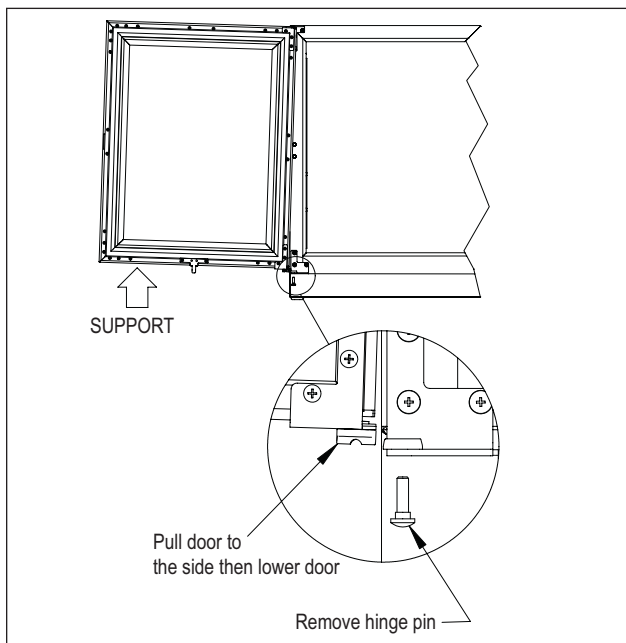

Figure 3. Door Removal
1. Support the door in the open position as shown in Figure 3. Remove the hinge pin.